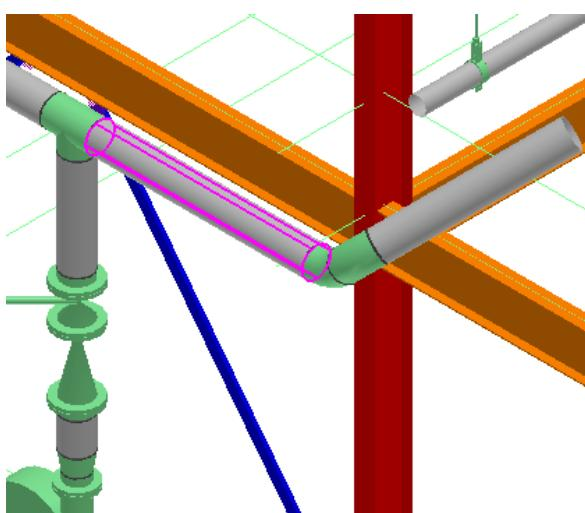

Figure 11: Selected Pipe
5. Select the pipe, as shown in Figure 11.